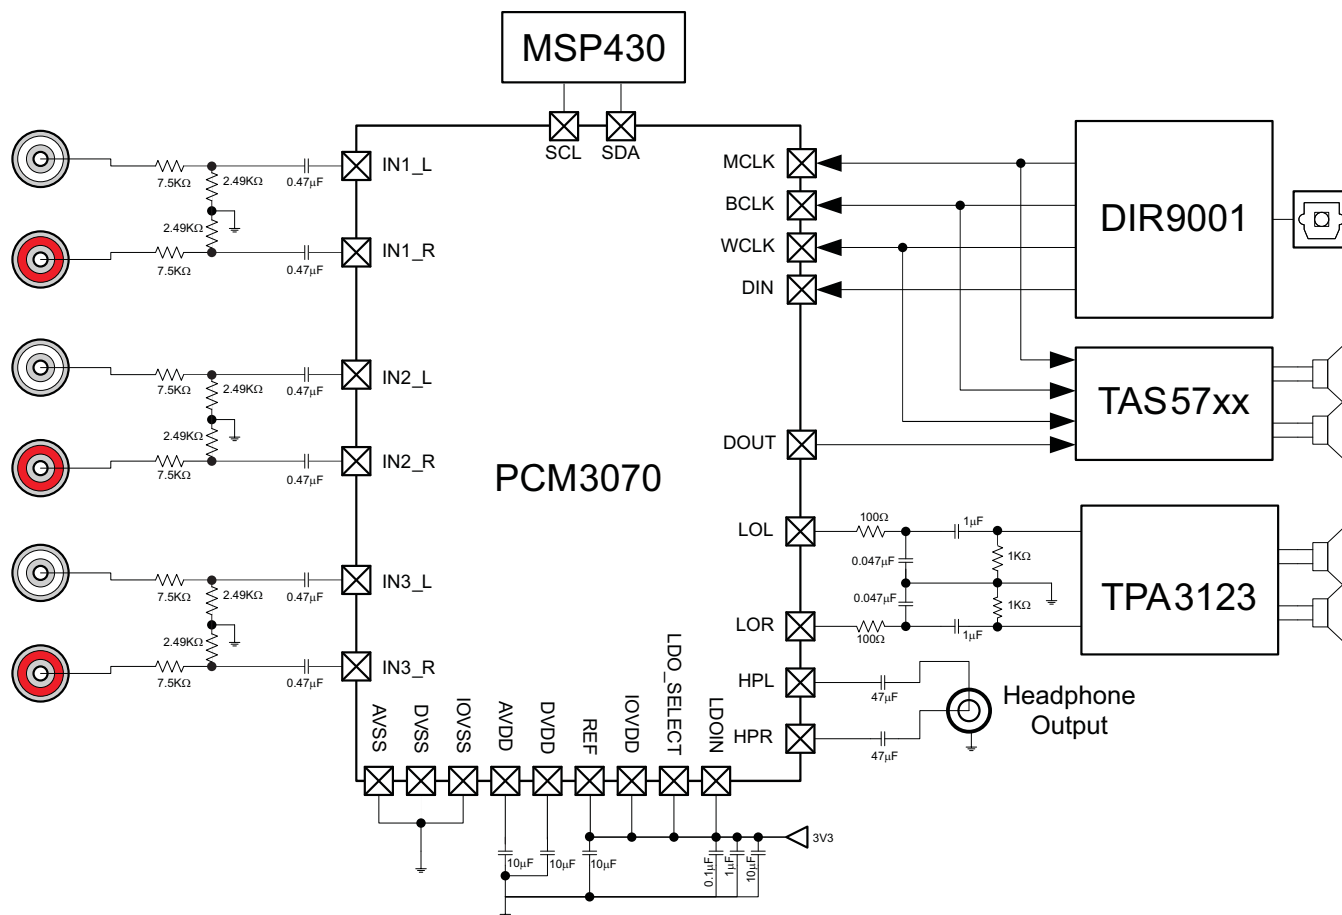

Figure 19. Typical Circuit Configuration
Figure 19 shows a typical circuit configuration for a system using the PCM3070.
Refer to Figure 19 for recommendations on decoupling capacitors.
- The decoupling capacitors for the power supplies should be placed close to the device terminals. Figure 19 shows the recommended decoupling capacitors for the PCM3070.